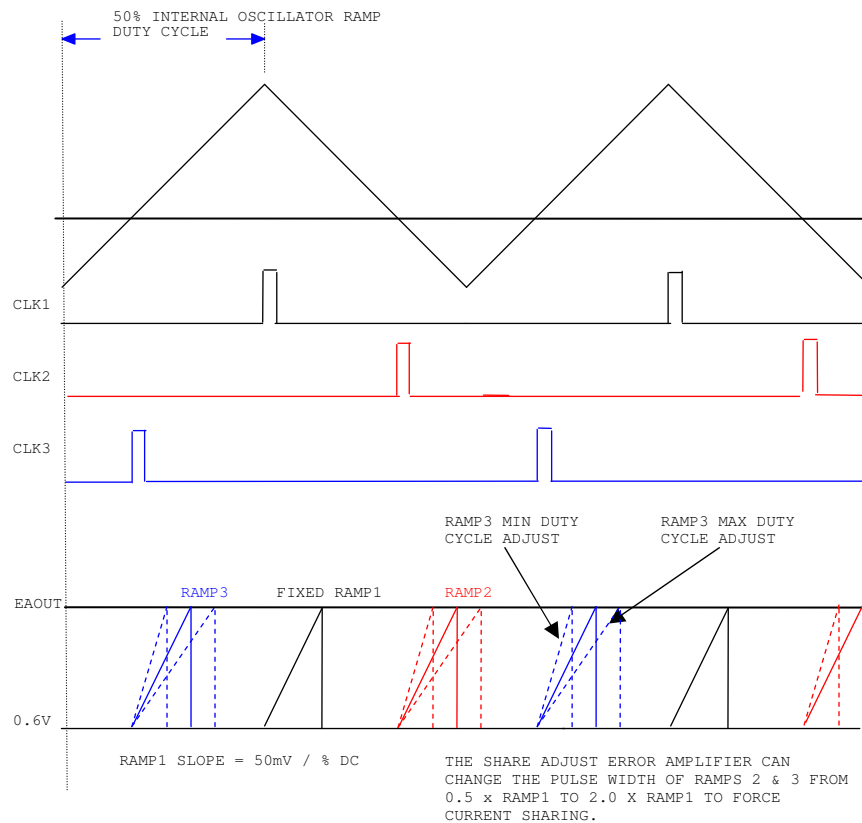
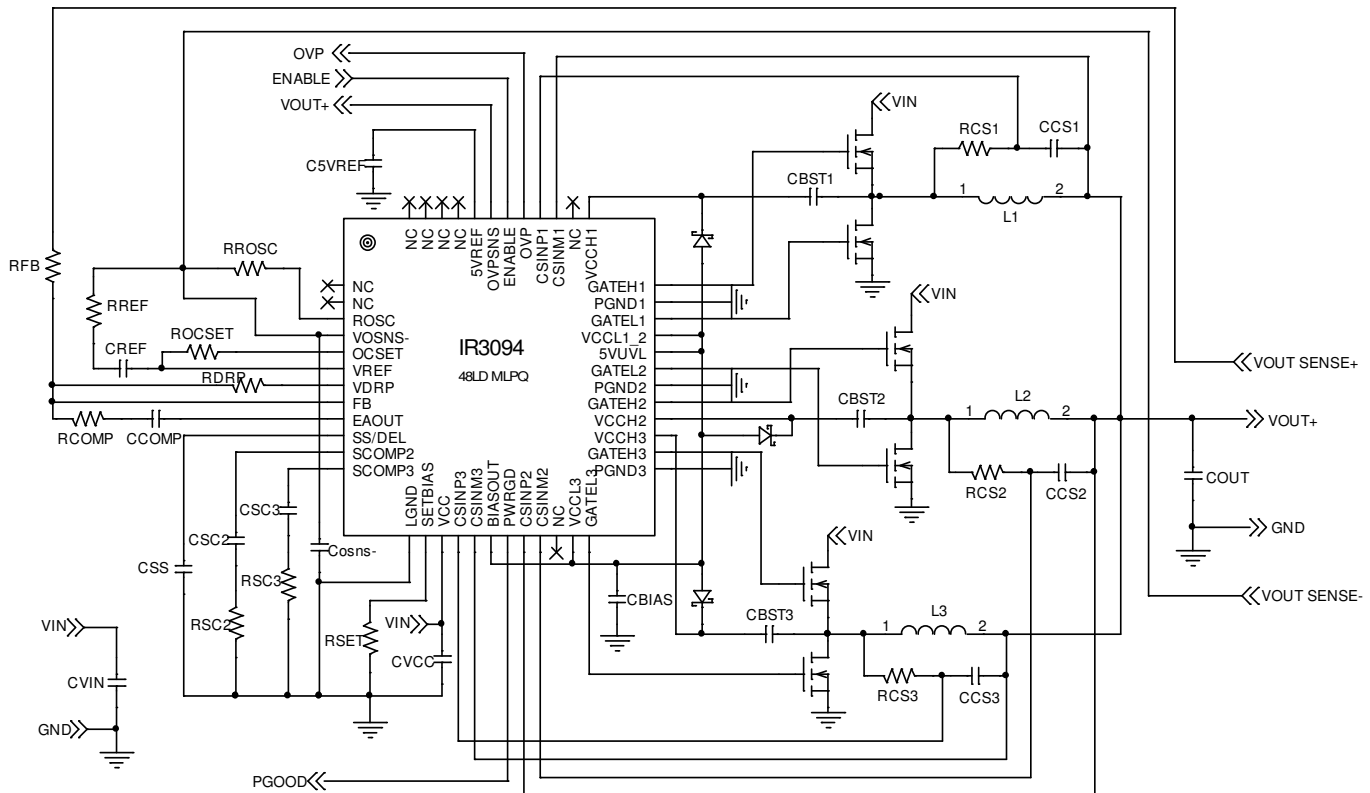

Figure 3 – 3 Phase Oscillator and PWM Waveforms
Figure 6 – System Diagram
Refer to Figure 3. Upon receiving a clock pulse, the RSFF is set, the internal PWM ramp voltage begins to increase, the low side driver is turned off, and the high side driver is then turned on. For phase 1, an internal 9pF capacitor is charged by a current source that is proportional to the switching frequency resulting in a ramp rate of 50mV per percent duty cycle. For example, if the steady-state operating switch node duty cycle is 10%, then the internal ramp amplitude is typically 500mV from the starting point (or floor) to the crossing of the EAOUT control voltage. When the PWM ramp voltage exceeds the Error Amplifier's output voltage, the RSFF is reset. This turns off the high side driver, turns on the low side driver, and discharges the PWM ramp to 0.6V until the next clock pulse.
The oscillator frequency is programmable from 100kHz to 540kHz with an external resistor RROC as shown in Figure 6. The Oscillator generates an internal 50% duty cycle sawtooth signal (Figure 3.) that is used to generate 120° out-of-phase timing pulses to set Phase 1,2 and 3 RS flip-flops. Once the switching frequency is chosen, RROC can be determined from the curve in the Typical Operating Characteristics Section.
The inductor DC resistance R_L is utilized to sense the inductor current. The current limit threshold is set by a resistor R_{OCSET} connected between the OCSET and VREF pins, as shown in Fig6. I_{LIMIT} is the required over current limit. I_{OCSET} , the bias current of OCSET pin, is set by R_{ROSC} and is determined by the curve in the Typical Operating Characteristics Section. OCP need to satisfy the high temperature condition. R_{L_MAX} and R_{L_ROOM} are the inductor DCR at maximum temperature T_{L_MAX} and room temperature T_{ROOM} respectively, the maximum inductor DCR can be calculated from Equation (9)
The voltage at the VDRP pin is an average of three phase Current Sense Amplifiers and represents the sum of the VREF voltage and the average inductor current of all the phases. The VDRP pin is connected to the FB pin through the RDRP resistor, see figure 6. The Error Amplifier forces the voltage on the FB pin to equal VREF through the power supply loop therefore the current through RDRP is equal to $(V_{DRP} - V_{REF}) / R_{DRP}$. As the load current increases, the VDRP voltage increases accordingly which results in an increase in RFB current, positioning the output regulated voltage lower thus making the output voltage reduction proportional to an increase in load current. The droop impedance or output impedance of the converter can thus be programmed by the resistor RDRP. The offset and slope of the converter output impedance are independent of the VREF voltage.
The maximum and minimum duty cycle adjust range of Ramps 2 & 3 compared to Ramp1 has been limited to a minimum of 0.5x and a maximum of 2.0x typical (see Figure 3.). The crossover frequency of the current share loop can be programmed with a capacitor at the SCOMPX pin so that the share loop does not interact with the output voltage loop.